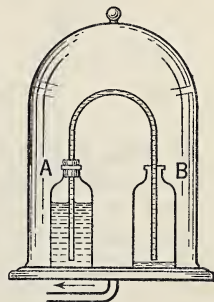

FIG. 100. The Bacchus' experiment with air pressure.
14. Two small bottles are placed under a bell jar. (See Fig. 100.) The bottle A is partly full of a colored liquid and tightly stoppered. As the air is pumped out of the bell jar, the liquid flows through the bent tube into the bottle B. Explain. As we let air into the bell jar again, the liquid flows back into A. Explain.